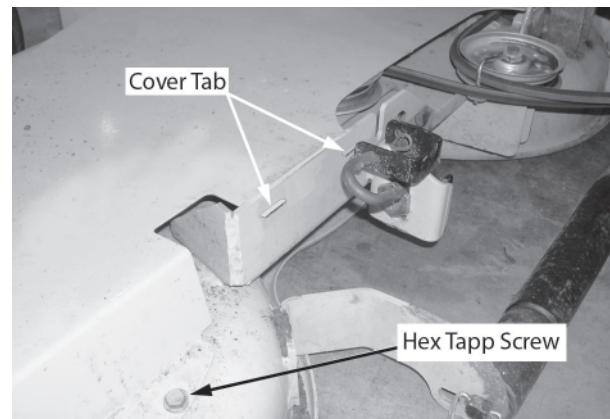

Figure 6-4
- Working around the perimeter of the cover, remove the five hex tapp screws securing the cover to the deck housing. Refer to Figure 6-4.
- Lift the front of the cover slightly, then pull the cover forward to slide the tabs of the cover out of the slots of the deck hanger plate. See Figure 6-4.